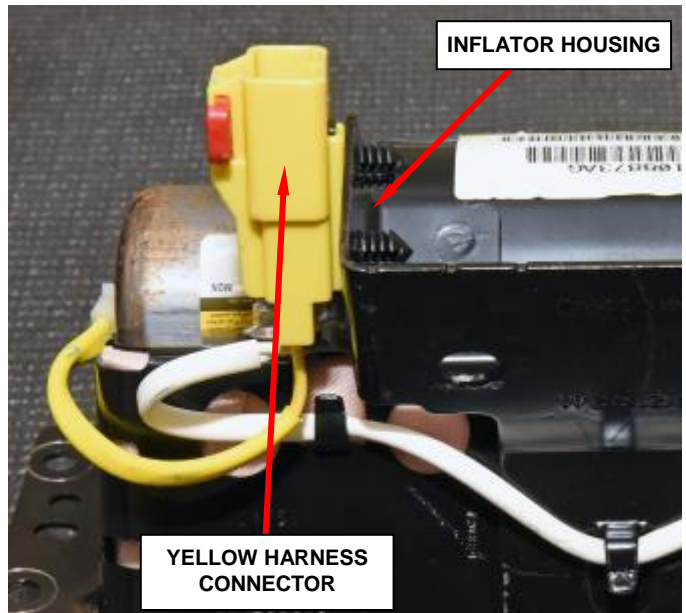

Figure 54 – Wire Harness Connector
c. Release the yellow wire harness connector from the inflator housing bracket (Figure 54).